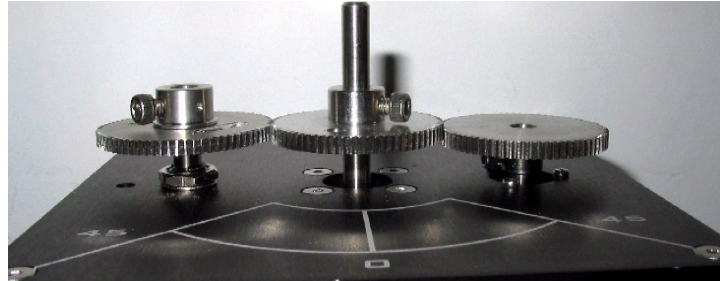
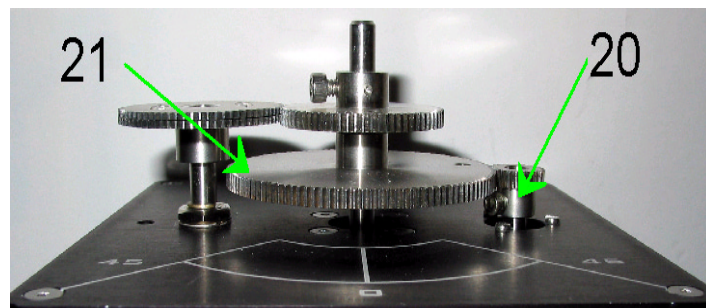

Figure 4 Low Gear Configuration
Figure 5 High Gear Configuration
- Each SRV02 system is shipped with 2 gear configurations (as seen in Figure 4 and Figure 5). Use the appropriate allen key (shipped with system) to loosen the screws on the gear hubs and remove them from the shafts.